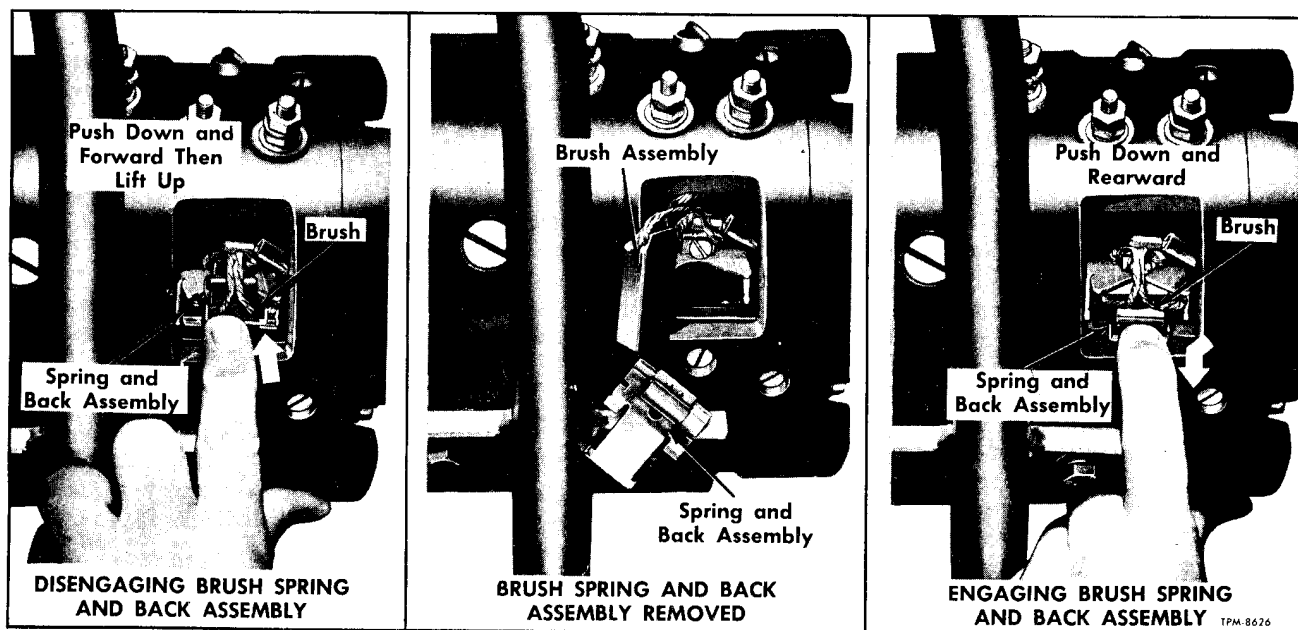

Figure 49—Replacing Underfloor Blower Motor Brushes
3. To replace brushes, refer to figure 49, which shows operational brush replacement views.
a. To remove individual brush, push down on spring and back assembly, then forward toward brush to disengage back from retaining lugs. See left view of figure 49. Release back, then remove brush from back assembly.
b. Remove screw which secure brush cable to bracket. Remove brush. Center view of figure 49 shows brush separated from spring and back assembly.
c. Install new brush in back and spring assembly, then force assembly downward beyond installed position, then move back assembly rearward and release it to engage positioning or retaining lugs as shown in right view of figure 49.